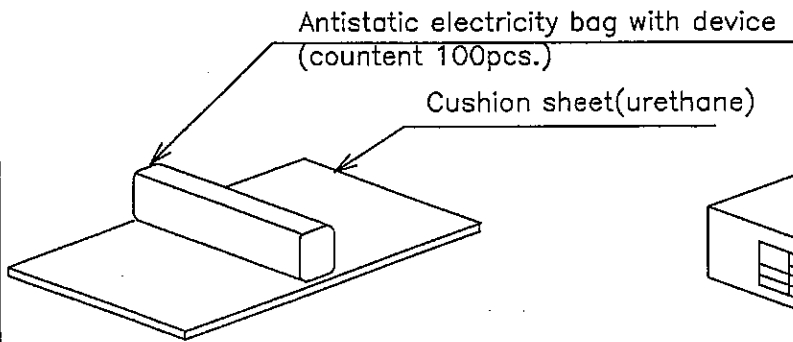

Fig.2
2. A pack (item1) should be wrapped by cushion sheet (urethane). And five packs should contain in one box. (Fig. 2, Fig. 3)